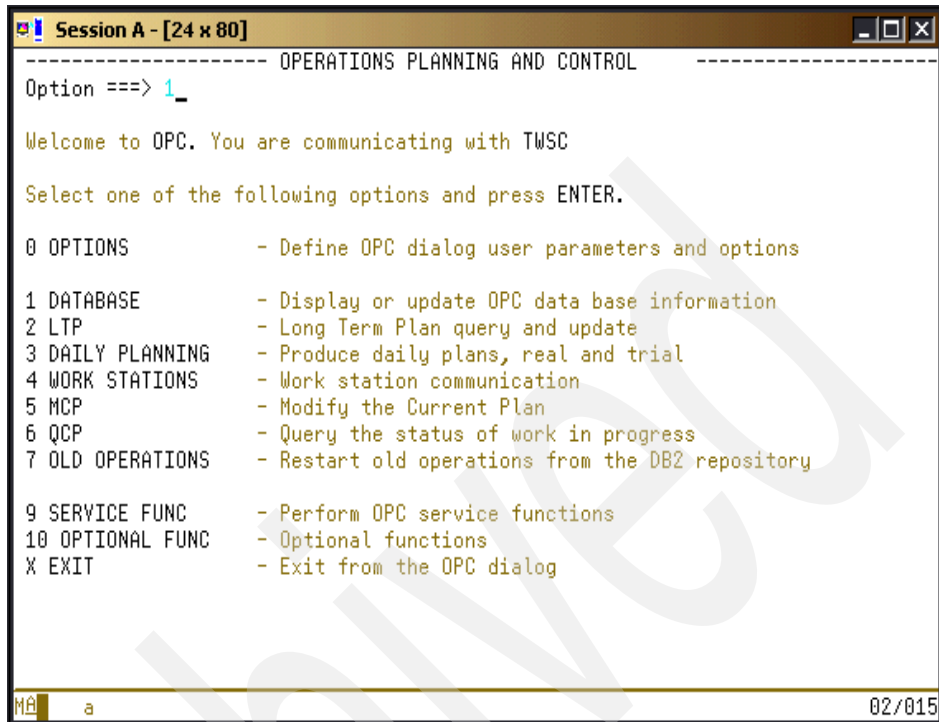

Figure 4-4 TWS for z/OS ISPF primary options menu
1. Use option 1 - Database of the Operations Planing and Control ISPF primary options menu as shown in Figure 4-4 on page 104.